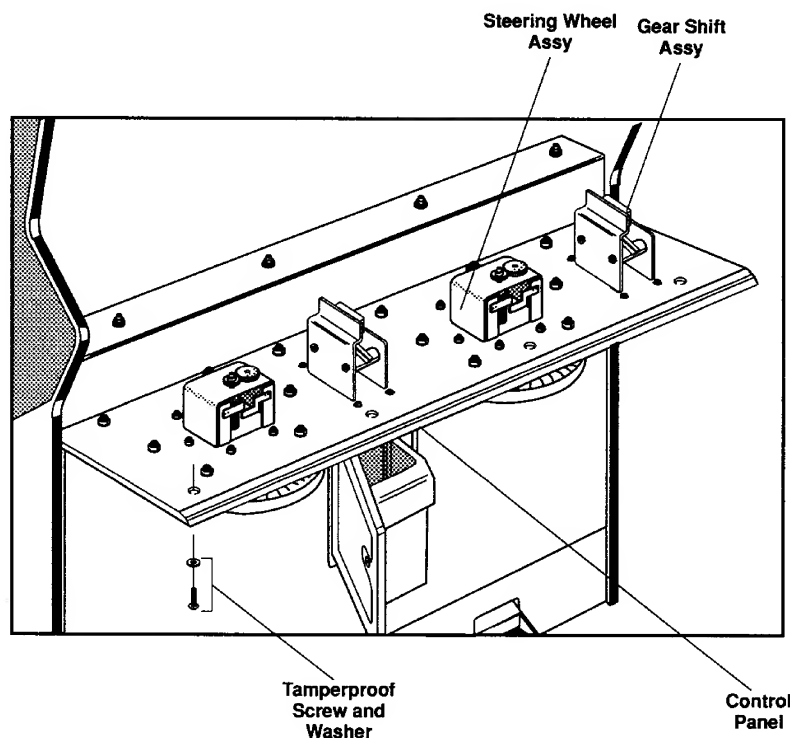

Figure 3-1 Opened Control Panel
2. Open the control panel. See Figure 3-1.